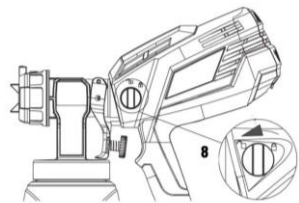

Fig. 12
6. Secure in place by pressing and turning the lock knob (#8) (Fig. 12).